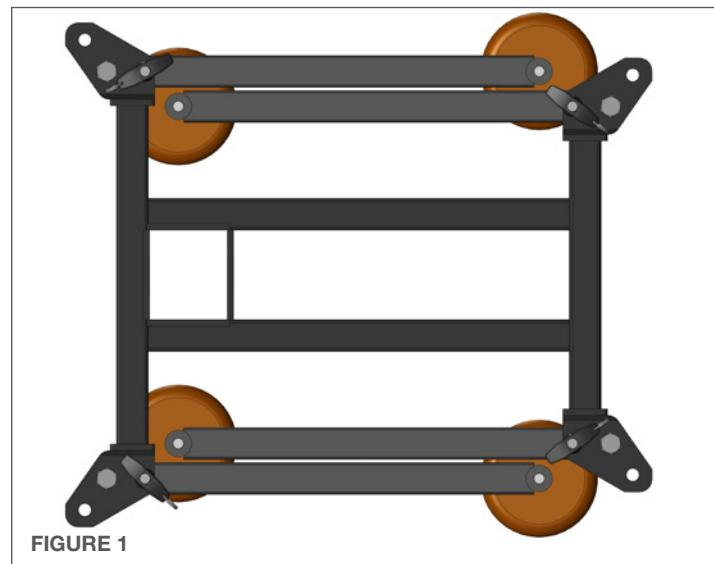

FIGURE 1
1. The Striker stand comes as shown in **(Figure 1)**